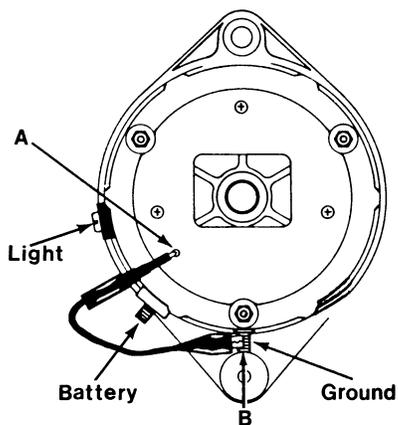

FIGURE 3
- c. Connect alligator clip of jumper wire to alternator ground as shown at B, Figure 3.
- d. Insert probe end of jumper wire into hole in the end cover, as shown at A, Figure 3, until it touches the screw head on the regulator. Note meter readings.